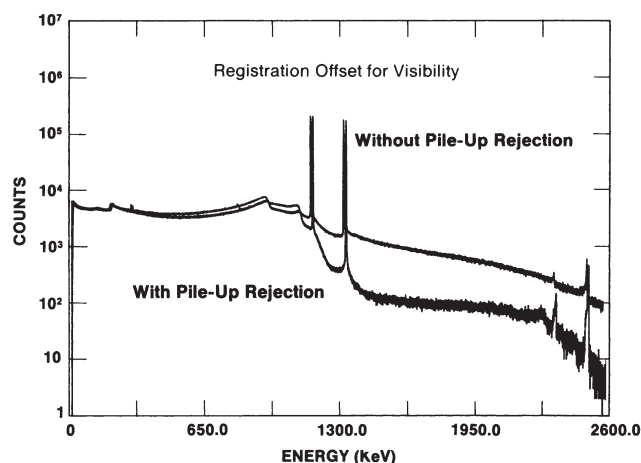

Fig. 3. Demonstration of the Effectiveness of the Pile-Up Rejector in Suppressing the Pile-Up Spectrum. See Pulse Pile-Up Rejector specification.
An efficient pile-up rejector is incorporated in the Model 672 Spectroscopy Amplifier. It provides an output logic pulse for the associated multichannel analyzer to suppress the spectral distortion caused by pulses piling up on each other at high counting rates (Fig. 3). The fast amplifier in the pile-up rejector includes a gated baseline restorer with its own automatic noise discriminator. A multi-color pile-up rejector LED on the front panel indicates the throughput efficiency of the amplifier. At low counting rates the LED flashes green. The LED turns yellow at moderate counting rates and red when pulse pile-up losses are >70%.
**Pulse Pair Resolution** Typically 500 ns. Measured using the 60Co 1.33-MeV gamma ray under the following conditions: 10% efficiency germanium detector, 4-V amplitude for the 1.33-MeV gamma ray at the unipolar output, 50,000 counts/s (Fig. 3).